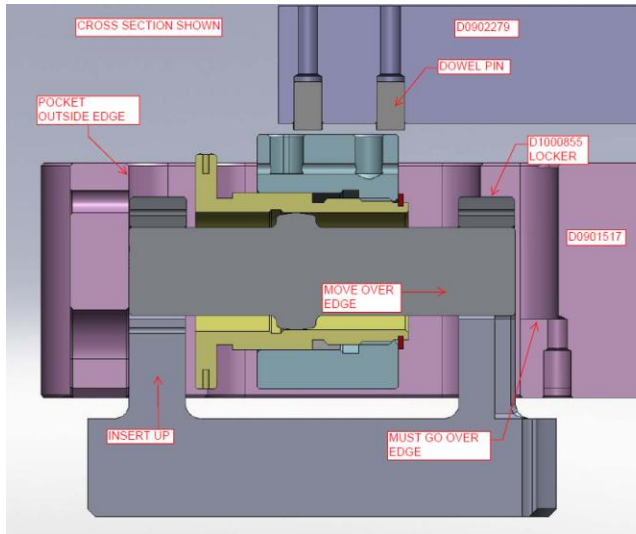

Figure 40: Cross Section of D1000855 Stage 1-2 Locker Assembly Installation 1/2
1.34. Position and attach D1000855 Stage 1-2 Locker Assembly to the bottom of D0902279 Stage 1 Base Plate & D0901517 Cut Out Optical Plate as shown on Figure 40 and Figure 40.
- Insert upwards D1000855 Stage 1-2 Lockers Assembly along the pocket on the outside edge of D0901517 Cut Out Optical Table as shown on Figure 40 & Figure 40.
Note: Insert it until it can't go up any further. This means that the top of D1000908 Housing Locker Sleeve is in contact with the dowel pins already installed in D0902279 Stage 1 Base Plate (see Figure 40).